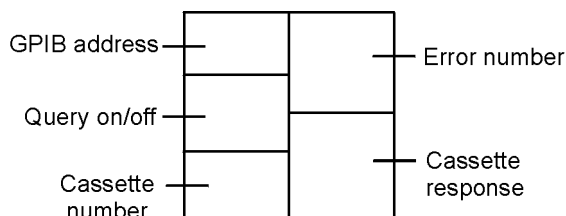

Figure 11: Implementing the Selection Driver
1. Insert nsel.vi and wire it as shown in Figure 11. The inputs are displayed on the left side; the outputs are displayed on the right side.